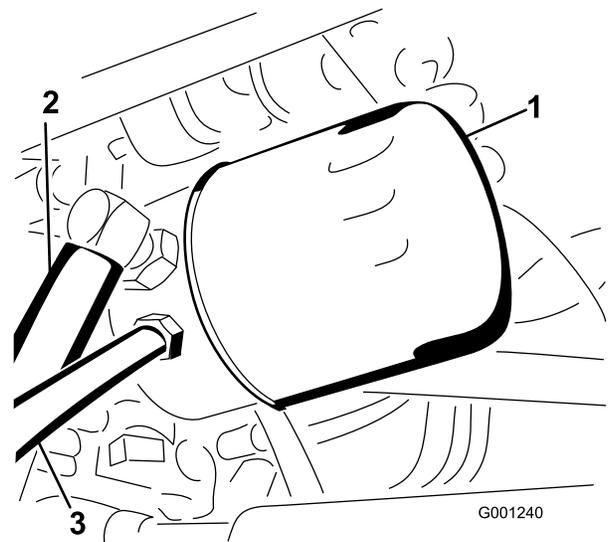

Figure 70
4. Clean the area around the hydraulic oil filter and remove the filter (Figure 70).